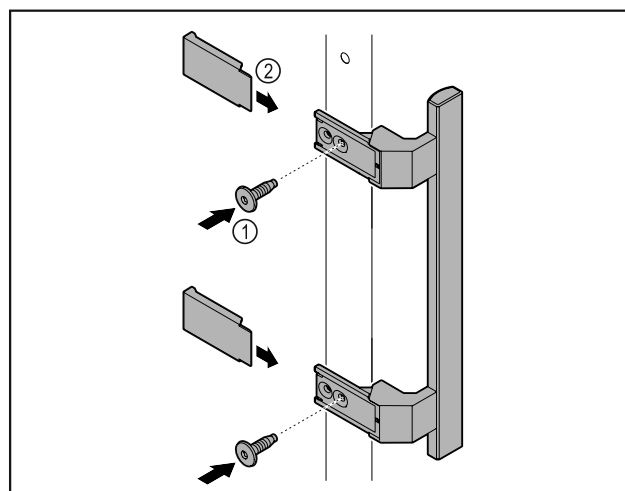

Fig. 5
- ▶ Attach handle from accessory kit to the door using the screws Fig. 5 (1) supplied.
- ▶ Put on covers Fig. 5 (2).